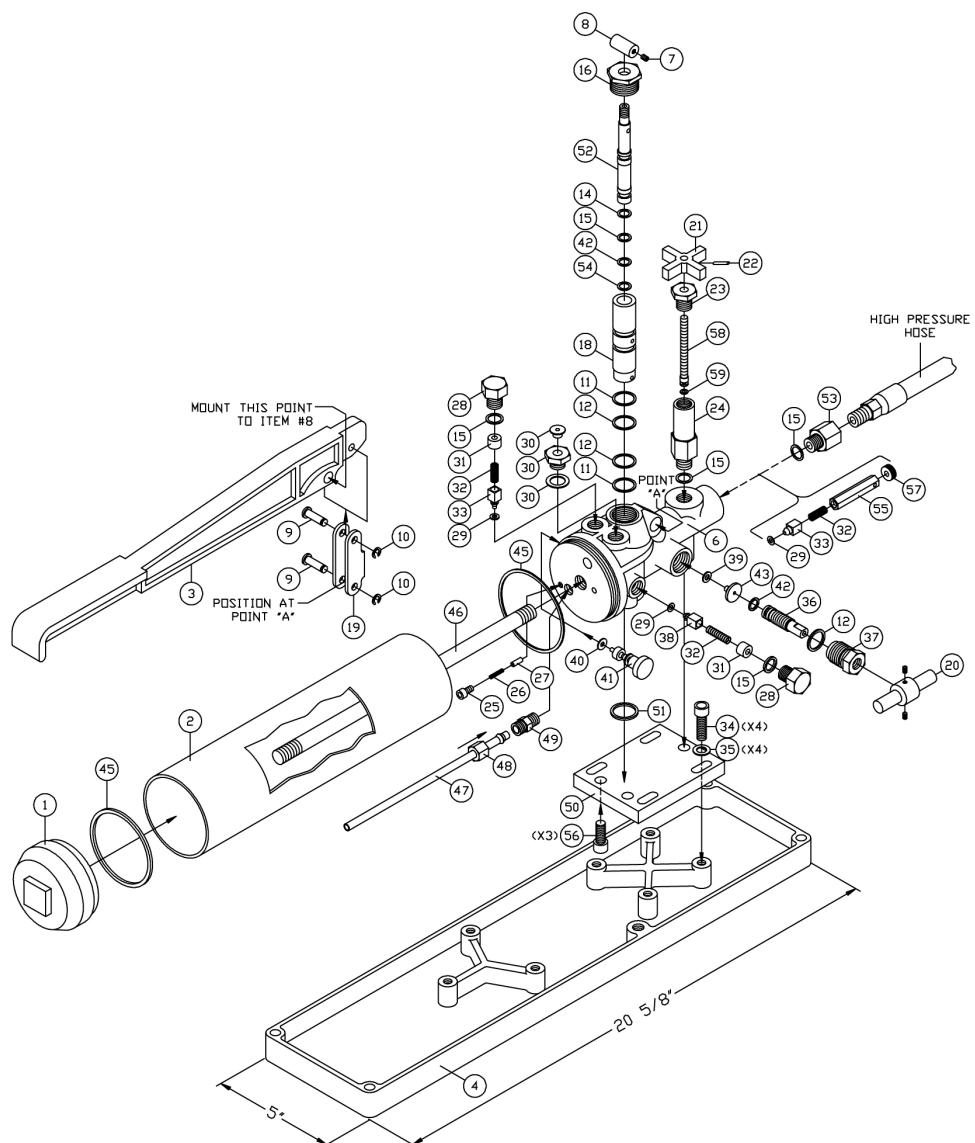

Figure 2: Hand Pump Assembly (Drawing 214000A-01)
Before connecting the hand pump to the jack, check the supply of fluid in the pump reservoir by removing the fill plug (item 30, Figure 2). The fill plug must be left open about two turns during operation to serve as a reservoir vent. If hydraulic fluid must be added, use petroleum base anti-wear hydraulic fluid with an ISO Viscosity Grade of 22 or 32. The following hydraulic fluids are recommended, but any equal hydraulic fluid may also be used:
If the pump and jack fail to develop or hold pressure, corrective maintenance may be necessary. (All numbers in parenthesis refer to items in Figure 2)
1. Check the supply of fluid in the pump reservoir by removing the fill plug (item 30, Figure 2). The fill plug must be left open about two turns during operation to serve as a reservoir vent. If hydraulic fluid must be added, use petroleum-based anti-wear hydraulic fluid with an ISO Viscosity Grade of 22 or 32 as recommended in Section 3, Preparation for Use.
Following are a few suggestions regarding the disassembly and reassembly of the hand pump. (All numbers in parentheses refer to items in Figure 2.)
Figure 2 and the associated parts list included in this manual illustrate replacement parts available for the standard hand pump commonly supplied with Morehouse Hydraulic Jacks. Drawings and parts lists for specific-capacity hydraulic jacks are supplied separately. If copies of drawings and parts lists for a specific-capacity jack are required, write to us for the appropriate drawings.